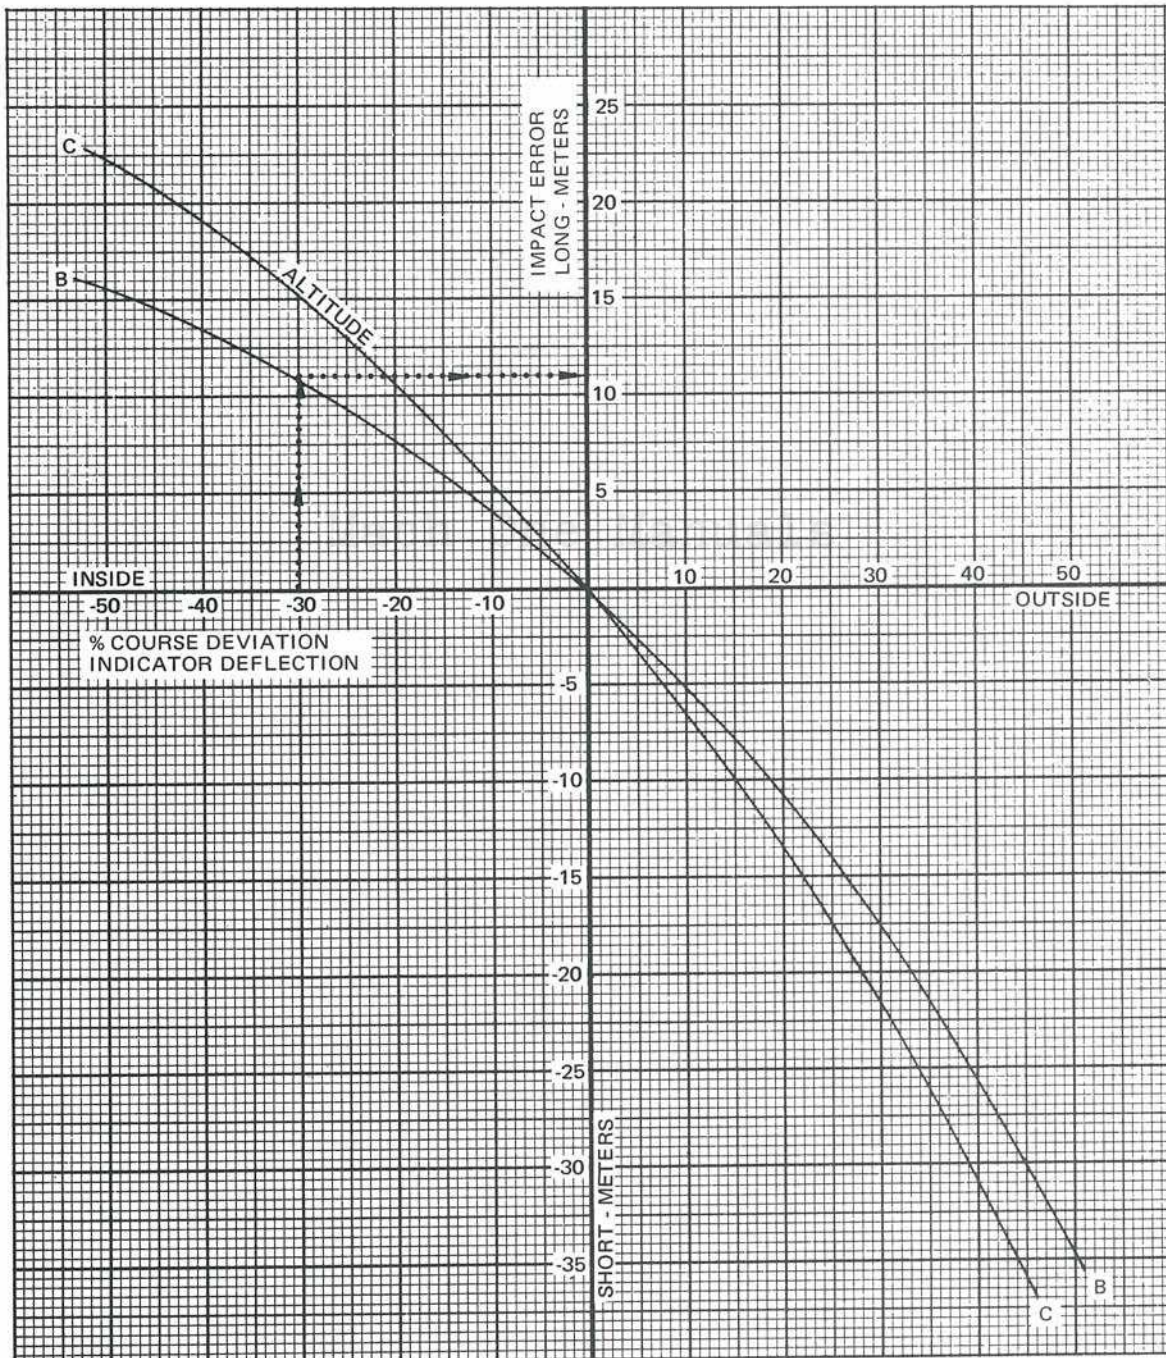

Figure 7-7
The Radius Error Chart, figure 7-7, illustrates the effect a change from the desired radius has on the impact area.
a. Enter the Radius Error Chart (figure 7-7) on the left side with -30 percent course deviation indicator deflection, then proceed upward vertically to the selected altitude line B.